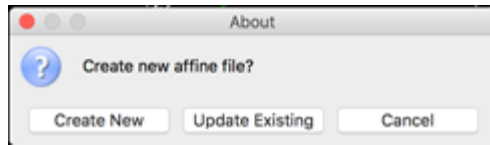

Figure 3-52. Affine Save dialogue if the Save Affine Table button is used.
- Ø If you click Yes, the **Save** dialog in Fig. 3-52 comes up.
- Click Save on the Tool Bar, which brings up the **Save** dialog in Fig. 3-52.
- Click the Save Affine Table button on the Shift Cores tab, which also brings up the **Save** dialog in Fig. 3-52.